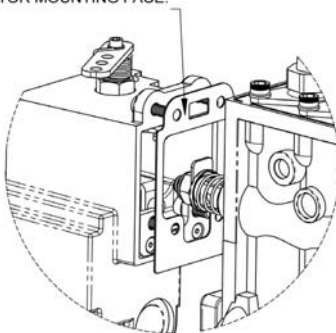

FIGURE 1-4
6. Align the gasket (29) as shown in (Figure 1-4) and install it over the two screws and carefully slip the actuator over the fuel rack assembly until the two lower screws just start to meet the fuel pump mounting holes.